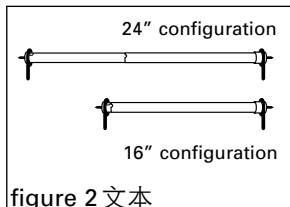
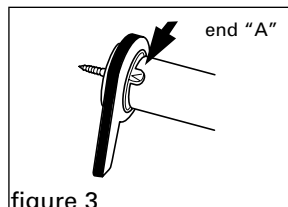
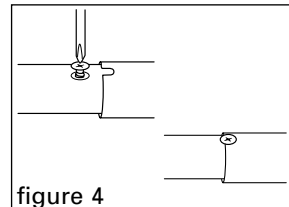

figure 2 文本
figure 3
figure 4
2. Determine if you have 16" or 24" ceiling joist centers (figure 2). The Saf-T-Brace® is preset at the factory for 16" centers. If you have 24" centers, you will need to slide the inner tube (end "A") out about 8" (figure 3) and insert the small sheet metal screw provided in the hole of the inner tube. After installing this stop screw, slide the notch on the outer tube up to lock it around the screw (figure 4).